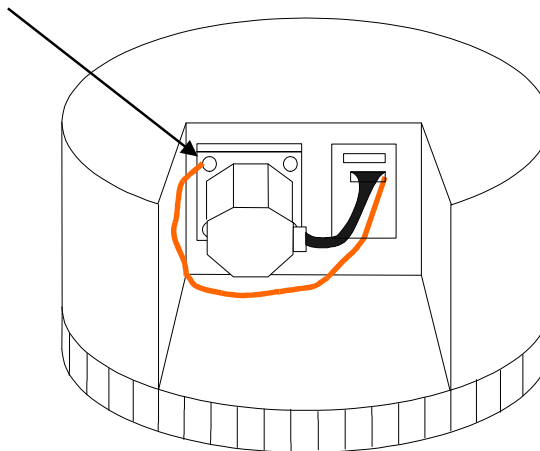

Figure 3
3. Turn over the Transfer Assembly, and remove connector to the R-Axis Motor. Refer to Figure 3.
9. Using the connector as a reference, check the orientation of the motor. Attach the ground cable to the area filed. Refer to Figure 3.
2. Remove connector to the R-Axis Motor. Refer to Figure 3.